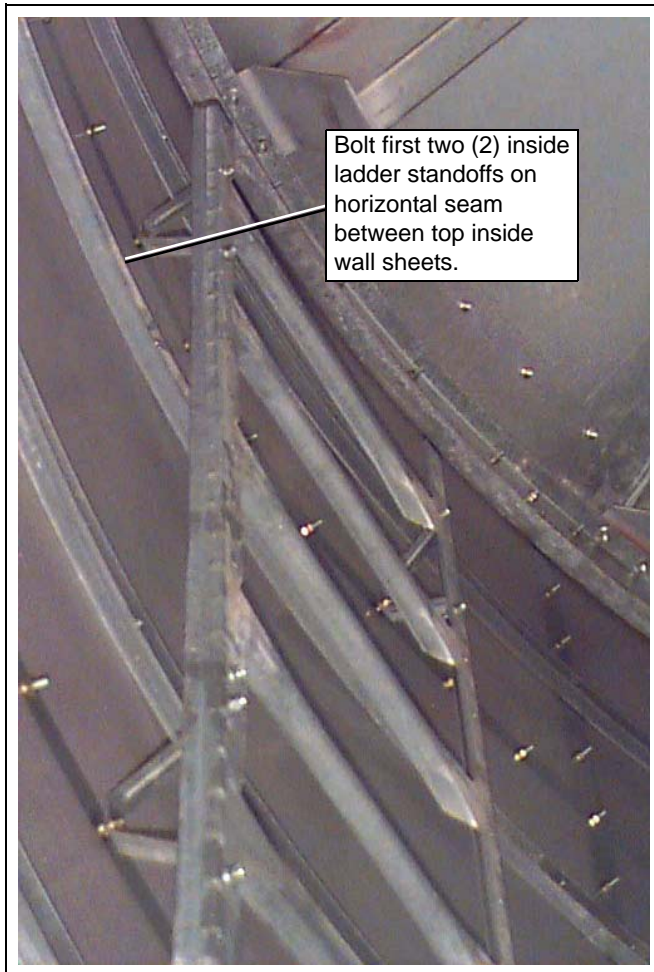

Figure 11E *Close Up - Top of auxiliary ladder.*
1. Bolt first two (2) inside ladder standoffs on the horizontal seam between the top inside wall sheets. Start in 4th bolt hole left or right from edge of sheet. *(See Figure 11E on Page 135.)*